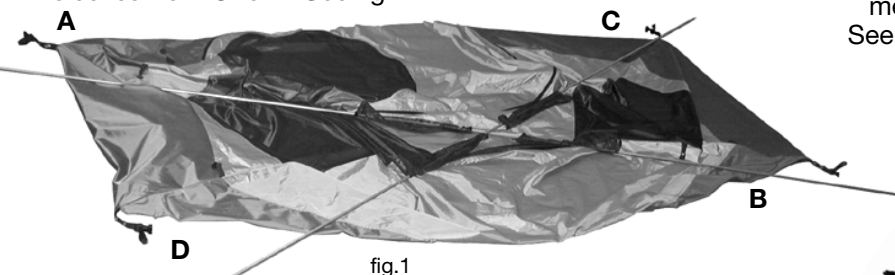

fig.1
- At the front of the tent body at A, slide a pole diagonally across the tent, through the sleeves, to the opposite side B. Follow the seam from sleeve to sleeve. Push the pole, don't pull it. Continue with the second pole through its sleeves from C to D. See fig.1.